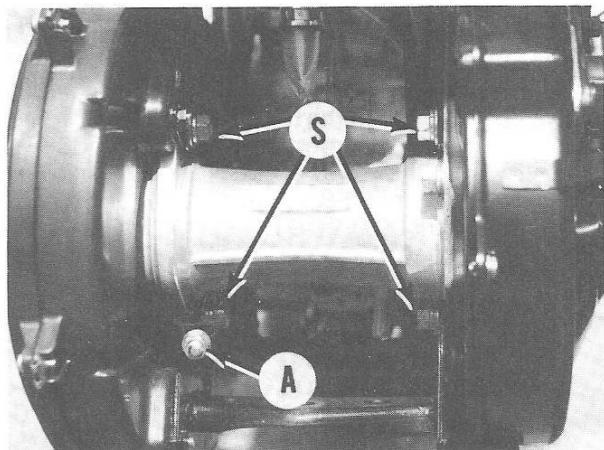

Fig. Y6-22—View showing location of rear housing retaining screws (S) and chain tension adjusting nut (A).
ADJUSTMENT. Remove the plug in the chain cover to view the drive chain. With both rear wheels on the ground, chain tension should be 10-15 mm (0.4-0.6 in.). To adjust chain tension, loosen rear axle housing screws (S—Fig. Y6-22). Turn chain tension adjusting nut (A) to obtain correct chain tension. Tighten axle housing screws and recheck chain tension.